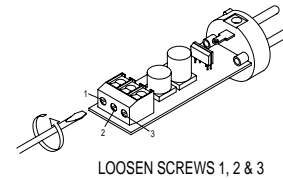

Figure 2.
3. Disconnect the cable by loosening the three terminal strip screws. See Figure 2.